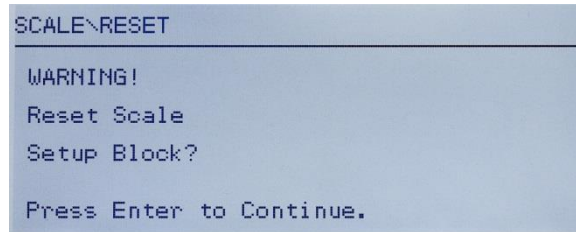

Figure 3-21: Indicator Reset Warning Screen
- 4. Use the DOWN navigation key to select Reset, then press ENTER. The screen shows a warning message about resetting the Scale setup (Figure 3-21).